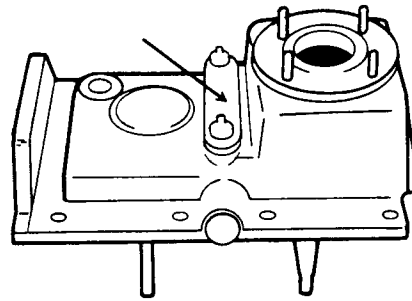

Fig H1.128
(12) Refer to Fig H1.128. Replace the upper plate and secure with the fixings.